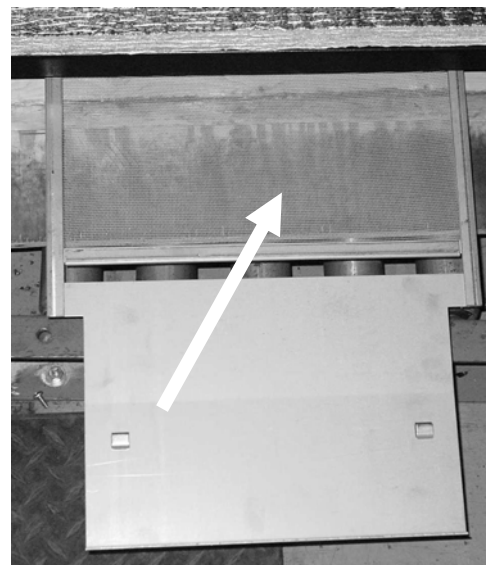

Figure 5
Loosen (2) screws shown in fig. 5.
MISCELLANEOUS (See Fig.5)